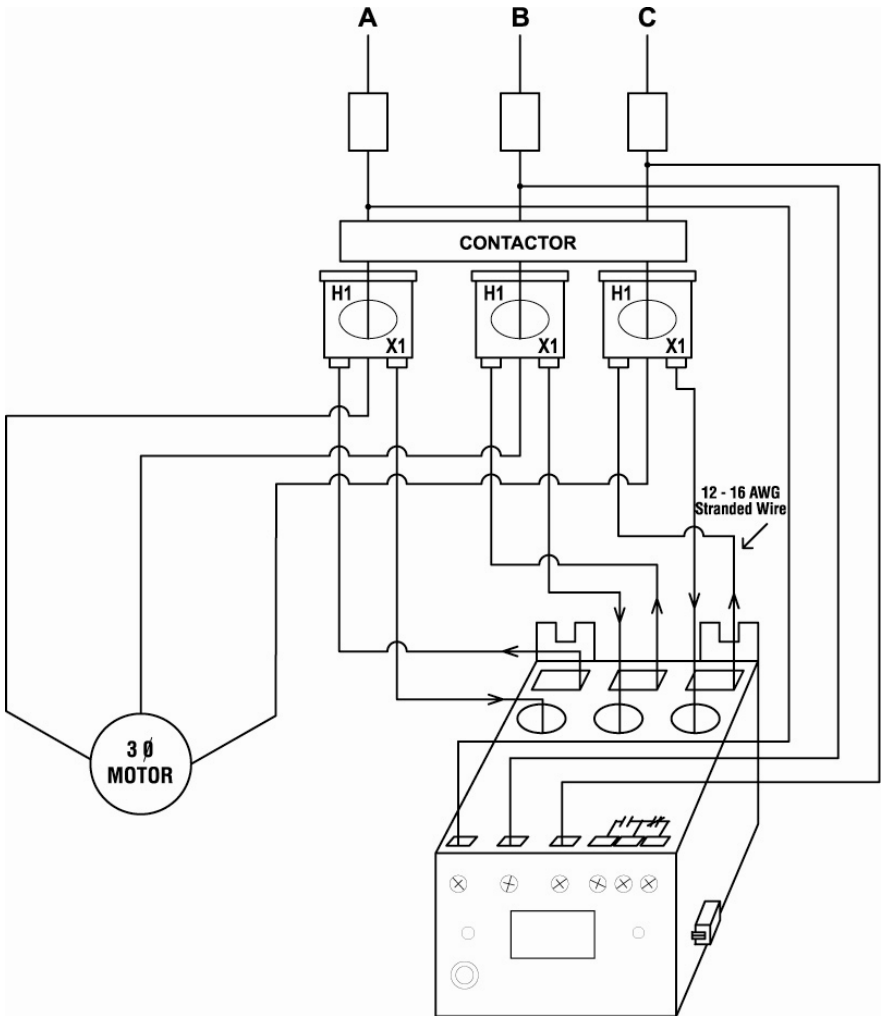

Figure 3: Typical Wiring Using External CTs²
c) For amperages greater than 9.0 amps, external CTs (current transformers) are required. SymCom recommends using CTs with terminal connections for easier installation. All CT secondaries must make one or two passes through the round holes on the MotorSaver® Plus. See Figure 3 for a typical wiring diagram using external CTs.